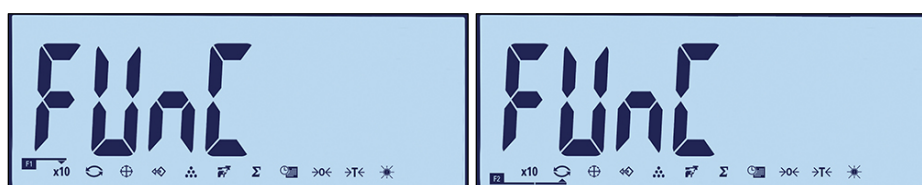

Figure 2-5: Function Keys Assignment Interface
To access the function key assignment interface, press and hold the or key when in basic weighing mode. The normal weight display will change to show an array of function icons, as seen in Figure 2-5. The currently selected function is indicated by a small arrow and a line linking it to the F1 or F2 symbol. Use the LEFT and RIGHT direction keys (and) to position the arrow next to the desired function. Figure 2-5 shows the X10 function assigned to F1 (left) and the Switch Units function assigned to F2 (right).
Enter setup (refer to Chapter 3, **Configuration**) and access the interface shown in Figure 2-5 at **F2 – Application > F2.1 – Operation > F2.1.1 – Function key 1** and **F2.1.2 Function key 2**. Once the interface screen is displayed, the procedure is as described above under **Assignment**.